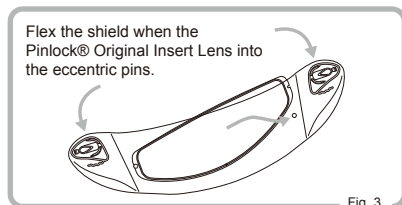

Fig. 3
- ② Flex the shield carefully until the shield becomes flat. Then, click the other side of the Pinlock® Original Insert Lens into the eccentric pins and then allow the shield to return carefully to its original curved shape. (Fig. 3 and 4)